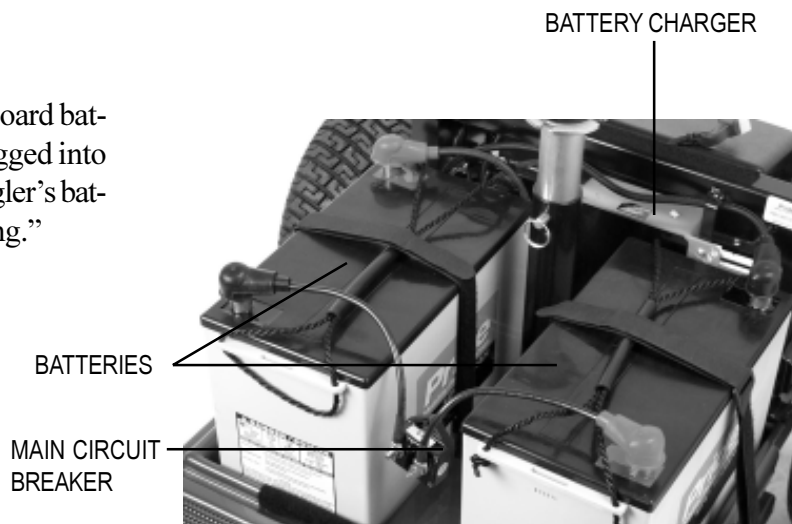

FIGURE 7. REAR SECTION
The electronic controller module, batteries, main circuit breaker, power charger cord, freewheel levers, and the motor assemblies are located on the rear section of your Wrangler. See figures 7 and 7A.
- The main circuit breaker is mounted between the two batteries. See figure 7.